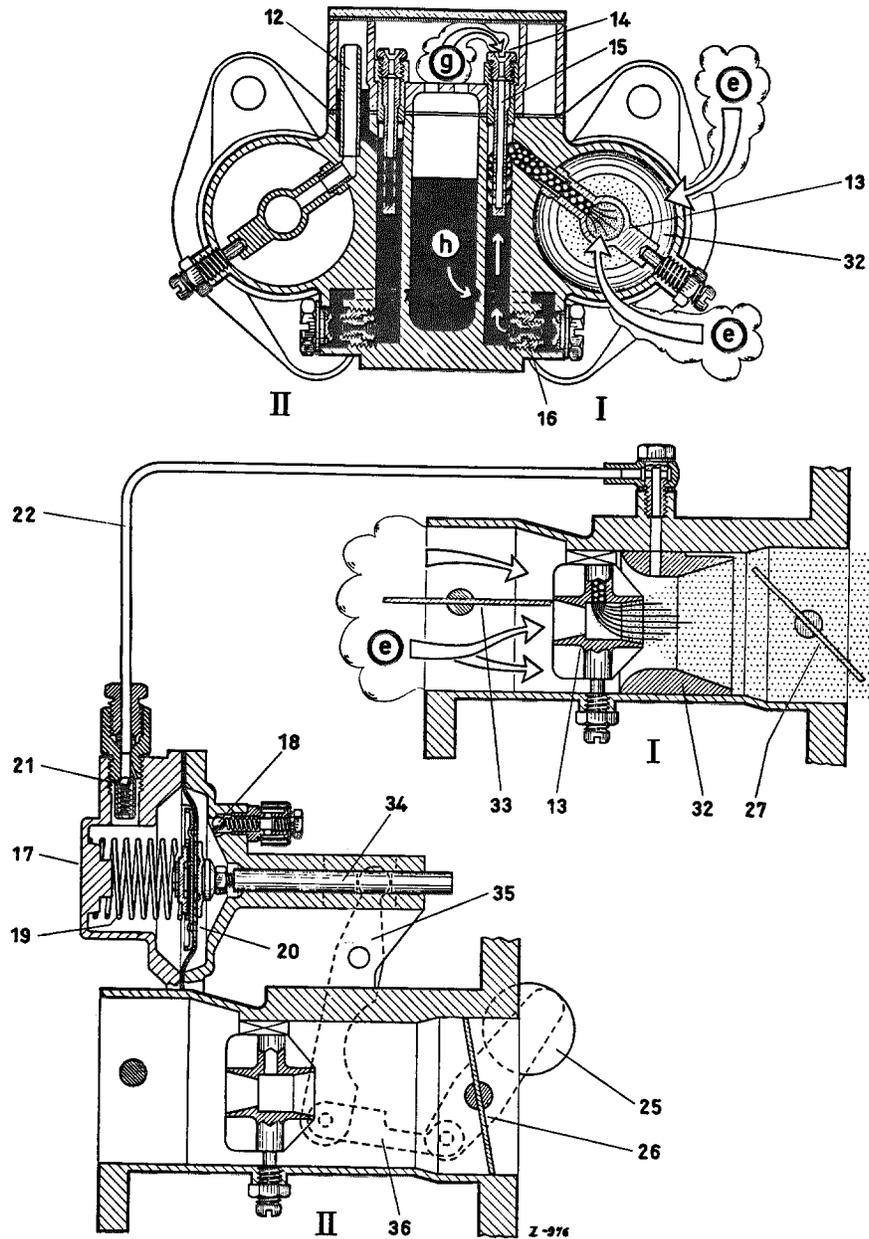

Fig. 07-0/45
- Note:** a) Fig. 07-0/44 shows the die-cast carburetor. As far as the main carburetion system is concerned, the sand-cast carburetor works the same way, the only difference is in the arrangement of the canals and jets (see 07-0/31).
- e) In the sand-cast carburetor the overflow control tube is screwed to the carburetor housing, whereas in the die-cast carburetor it is located inside the carburetor (see Figs. 07-0/31 and 07-0/44).
When the throttle valve (27) of stage 1 is opened, the partial vacuum begins to have an effect on the outlet tube of the diffuser. As a result, fuel is drawn from the cylindrical cavity via the outlet tube of the diffuser and is mixed with the air entering through the air inlet branch. Compensating air enters through the air correction jet (14) in progressively larger amounts, passes through the bores of the mixing tube (15) and combines with the fuel flowing through the main jet to form a mixture. Air enrichment increases with increasing engine speed, thus preventing overenrichment of the mixture (Fig. 07-0/45).